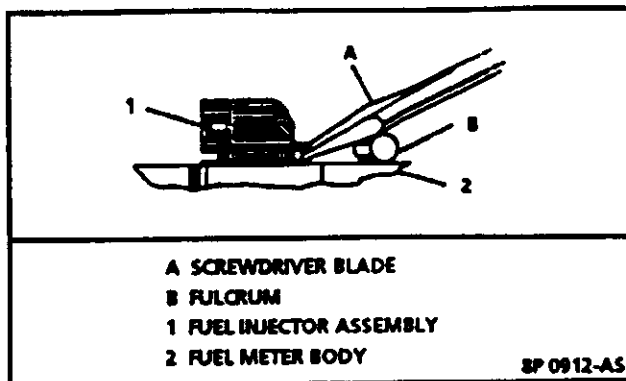

Figure 3.2-15 Removing Throttle Body Injection 700 Fuel Injector
3. Using a fulcrum, place screwdriver blade under ridge opposite connector end and carefully pry injector out (Figure 3.2-15).